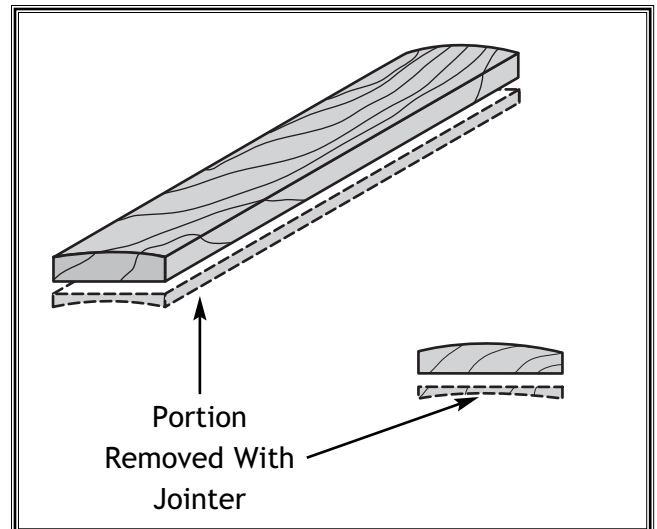

Figure 32. Face joint the concave side of cupped stock before planing.
- Carefully inspect any lumber that you plan to run through the planer. Each board must have at least one flat surface to slide along the planer table. To create a flat surface, pass the stock over a jointer first. See **Figure 32**. Some defects such as moderate twisting, loose knots or severe cracks may make the stock unusable.